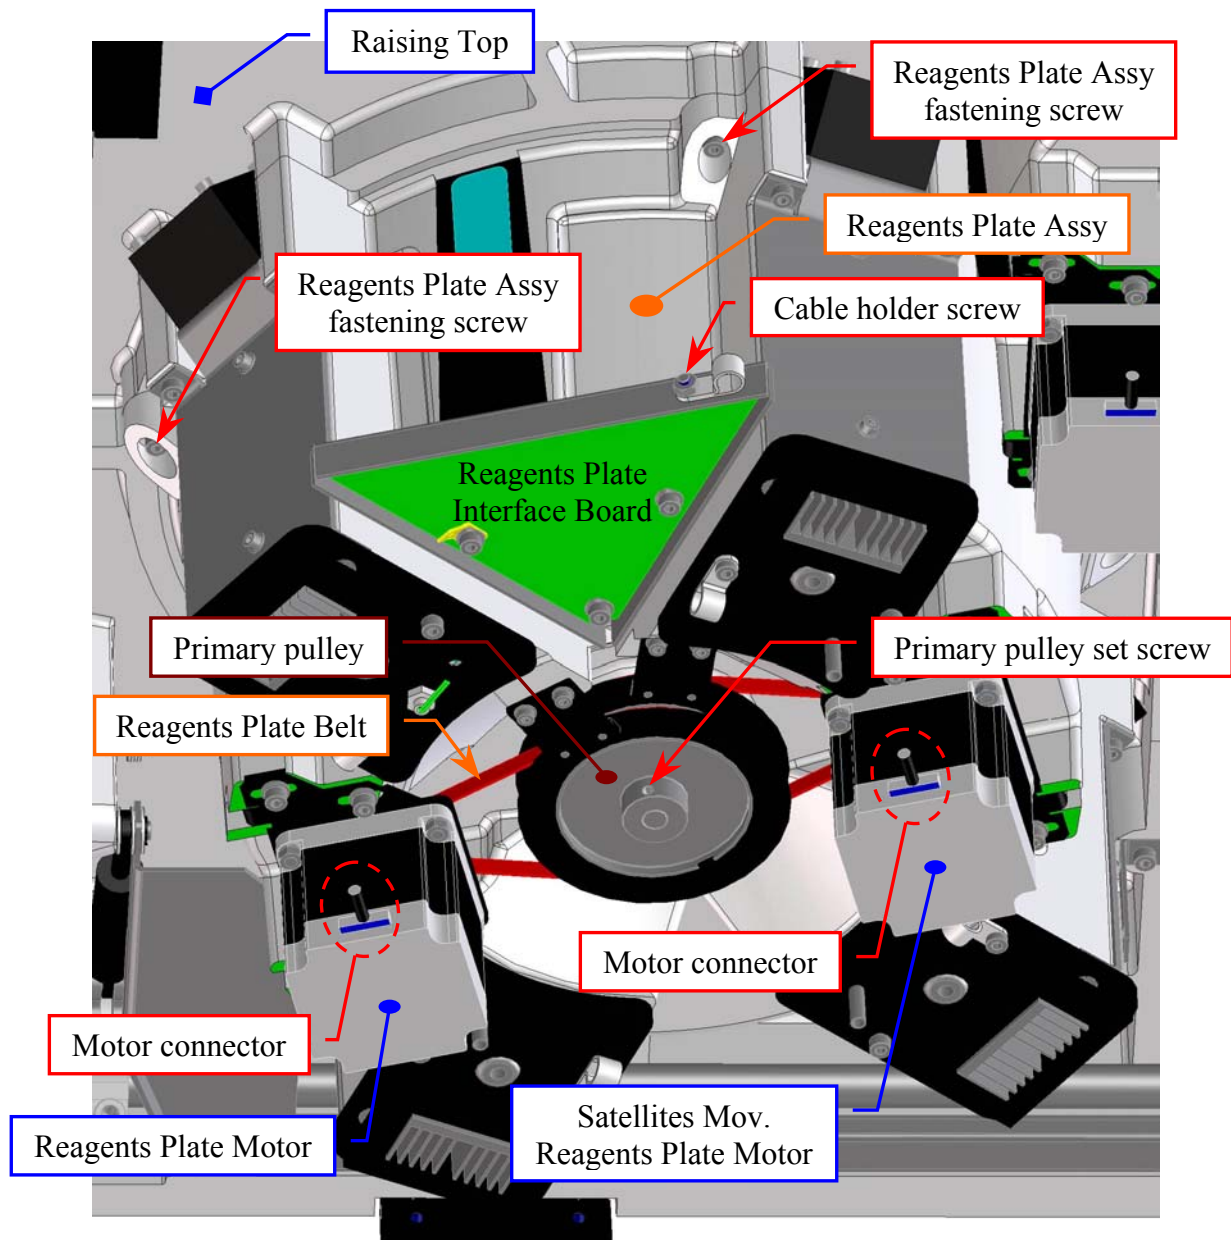
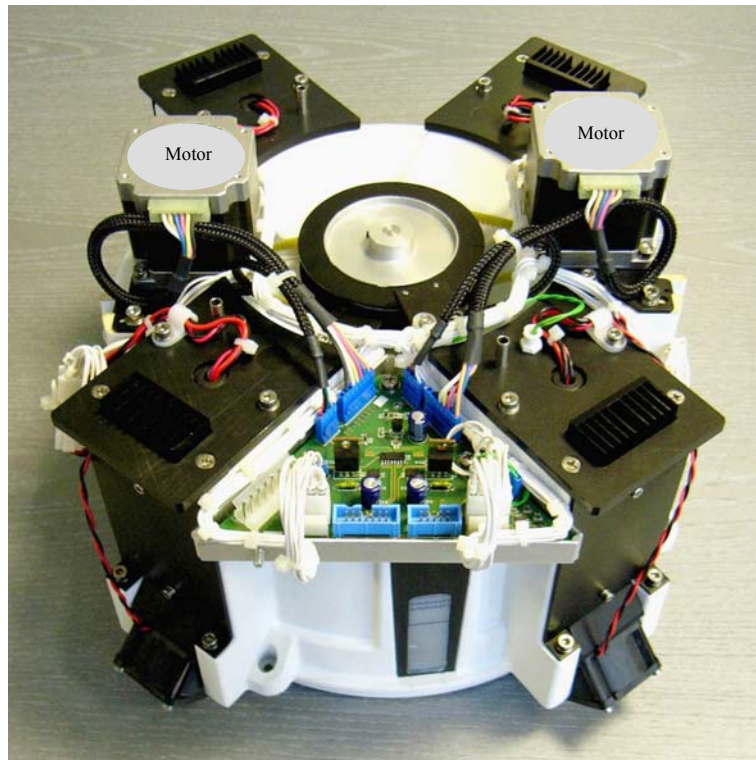

Fig. 75 – Primary pulley of the Reagents Plate Assy
Fig. 77 – Reagents Plate Assy
- b. loosen the two set screws of the primary pulley of the Reagents Plate (Fig. 75);
- d. tighten the two set screws of the primary pulley of the Reagents Plate (Fig. 75);
5. Unscrew the cable holder screw (Fig. 75), remove the cable holder and put away the relative cables from the Reagents Plate Assy.
6. Unscrew the four Reagents Plate Assy fastening screws (Fig. 75) and take out – moving carefully – the Reagents Plate Assy from its housing.
To replace the Reagents Plate Assy (Fig. 77) perform the following steps:
6. Loosen much the two set screws of the primary pulley of the Reagents Plate (**Fig. 75**).
To replace the plate base (Reagents Plate support having P/N: 05-02271-01) in the Reagents Plate Assy (**Fig. 77**) and the Reagents Plate Assy in the instrument (**Fig. 75**) perform the following steps:
26. Lock on well the primary and secondary pulley over the container and between them, then tighten the two set screws of the primary pulley and the two set screws of the secondary pulley of the Reagents Plate (**Fig. 75**).